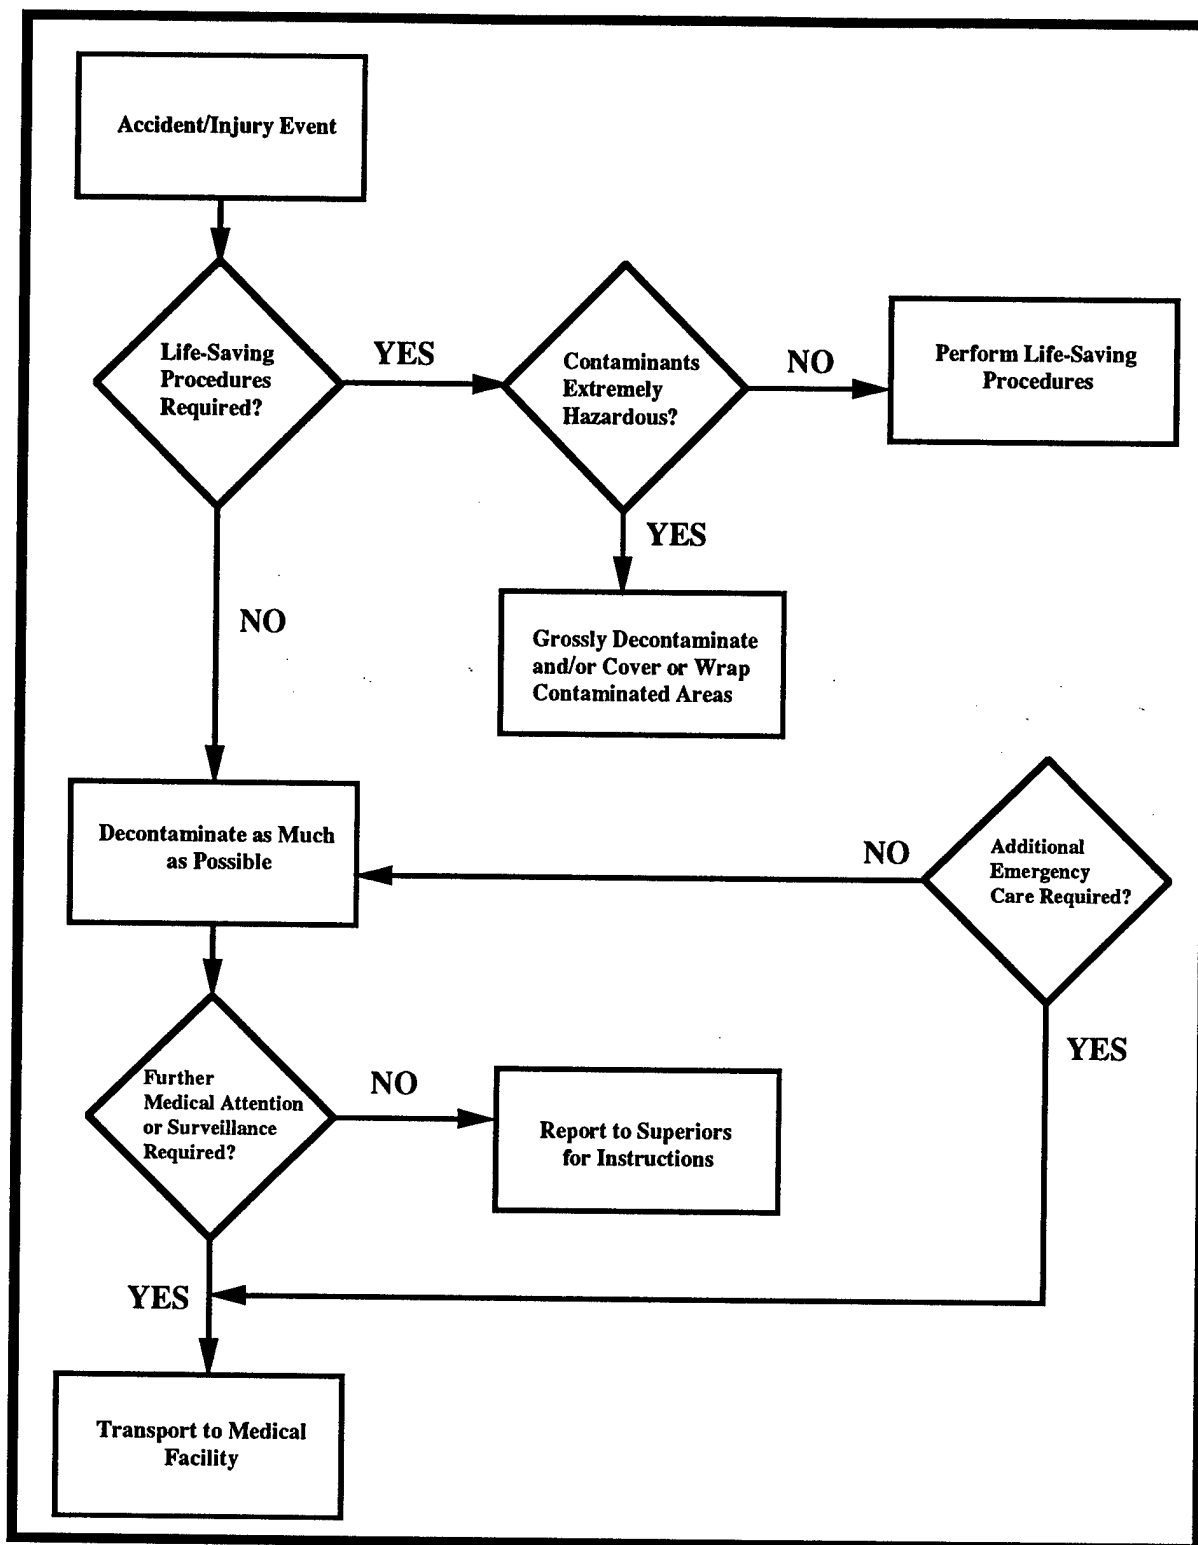

Figure 1. Decision Aid for Emergency Decontamination
- **Assessment of Hazards.** Assess existing and potential hazards to site personnel and the off-site population. Determine (1) whether and how to respond, (2) the need for evacuation of site personnel and off-site population, and (3) the resources needed for evacuation and response.
- **Decontamination of Uninjured/Injured Personnel.** Use established procedures to decontaminate uninjured personnel in the contamination area. If the emergency makes this area unsafe, establish a new decontamination area at an appropriate distance. Decontaminate victims before or after stabilization as their medical condition dictates (Decision Aid For Emergency Decontamination, see Figure 1).
- **Evacuation of Site Personnel.** Evacuate site personnel by (1) informing public-safety personnel (coordinator for hazardous-chemical emergencies at JPG is the Chief of Safety, Allen Dunham) that there is a potential or actual need to evacuate the off-site population, (2) moving personnel upwind of the incident, and (3) monitoring the incident for significant changes. The hazards may diminish, permitting personnel to reenter the site, or the hazards may increase, requiring public evacuation.